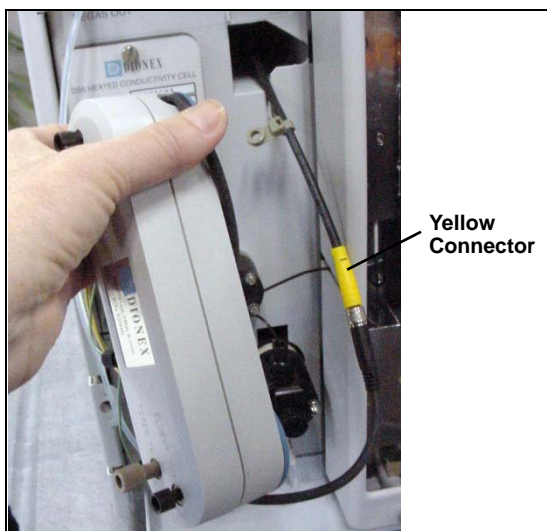

Figure 5-11. Removing the Suppressor
6. Continue pulling the suppressor out until the yellow connector on the cable inside the ICS-1000 is outside the panel (see Figure 5-11).